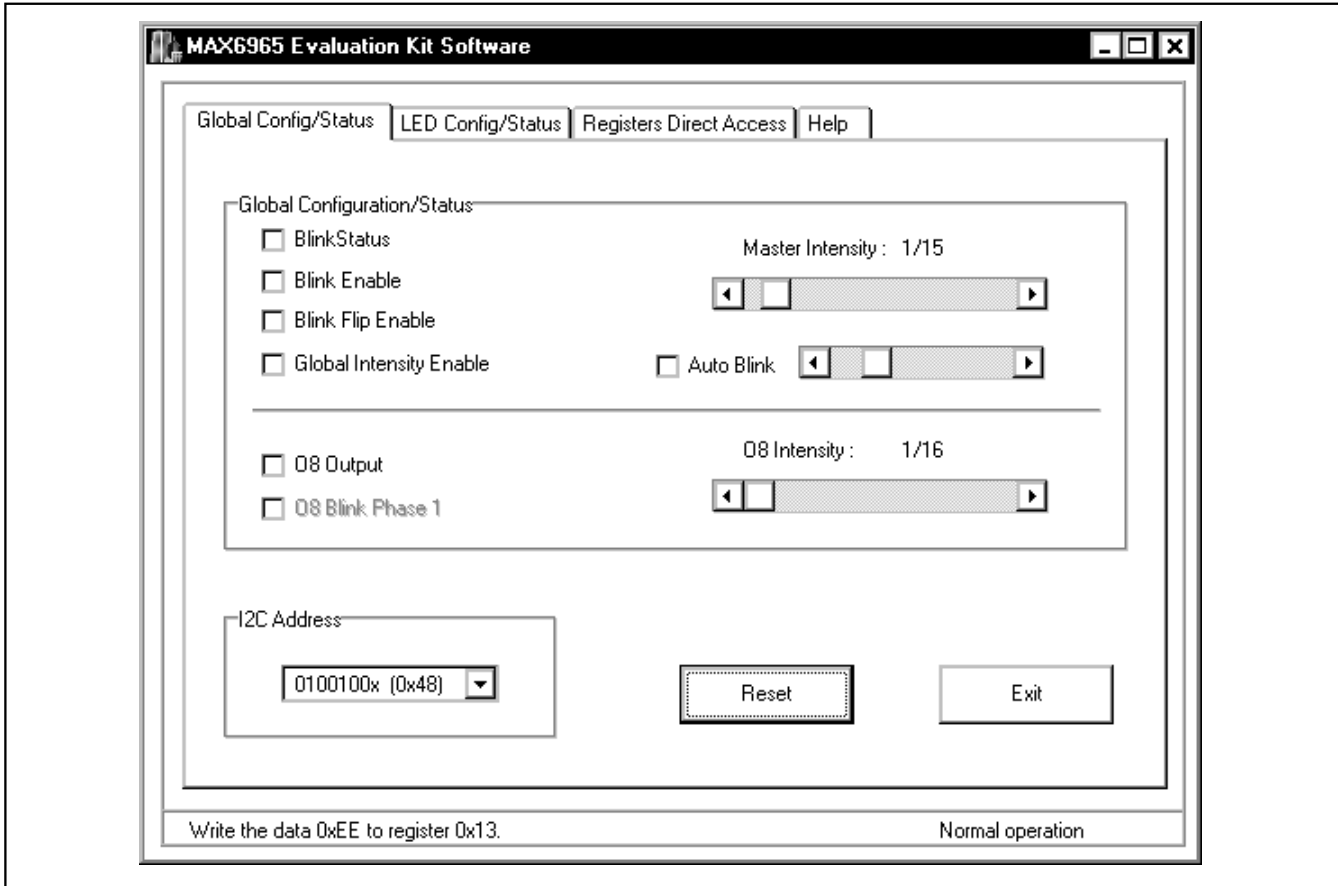

Figure 1. MAX6965 Evaluation Software Main Window (Global Config/Status Tab)
- 11) Start the MAX6965 EV kit software by opening its icon in the **Start** menu. The GUI main window appears as shown in Figure 1.
To start the MAX6965 EV kit software, double-click the MAX6965 EV kit icon that was created during installation. The GUI main window appears as shown in Figure 1. Wait approximately two seconds while the MAX6965 EV kit software connects to the CMAXQUSB board.
The **Global Config/Status** tab shown in Figure 1 contains the **Global Configuration/Status** group box, the **I2C Address** pull-down menu, as well as **Reset** and **Exit** buttons.